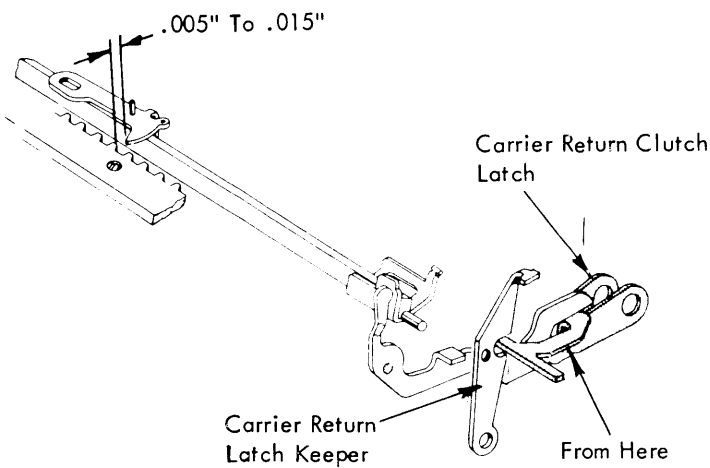

FIGURE 143. Pawl Clearance Adjustment
2. Pawl Clearance - Form the carrier return clutch latch so that the escapement pawl will clear the rack teeth by .005" to .015" when the latch is being held down by the keeper (Fig. 143).